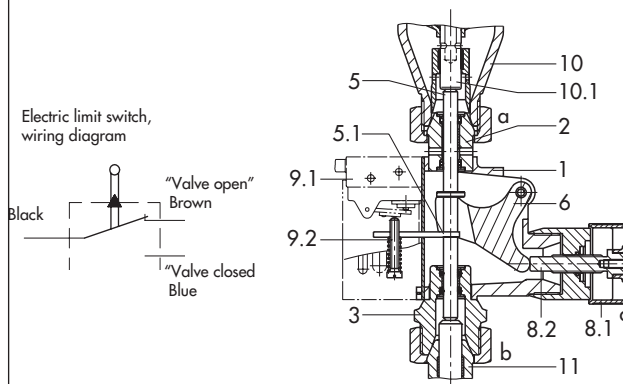

Fig. 4: Manual adjuster Ma - with limit switch, MaS -
The **manual adjuster** (Ma), (Fig. 4) is mounted to connection "c" instead of a second thermostat. By turning the handle (8.1), the pin (8.2) can be moved, which acts via the lever (6) onto the coupling pin (5).